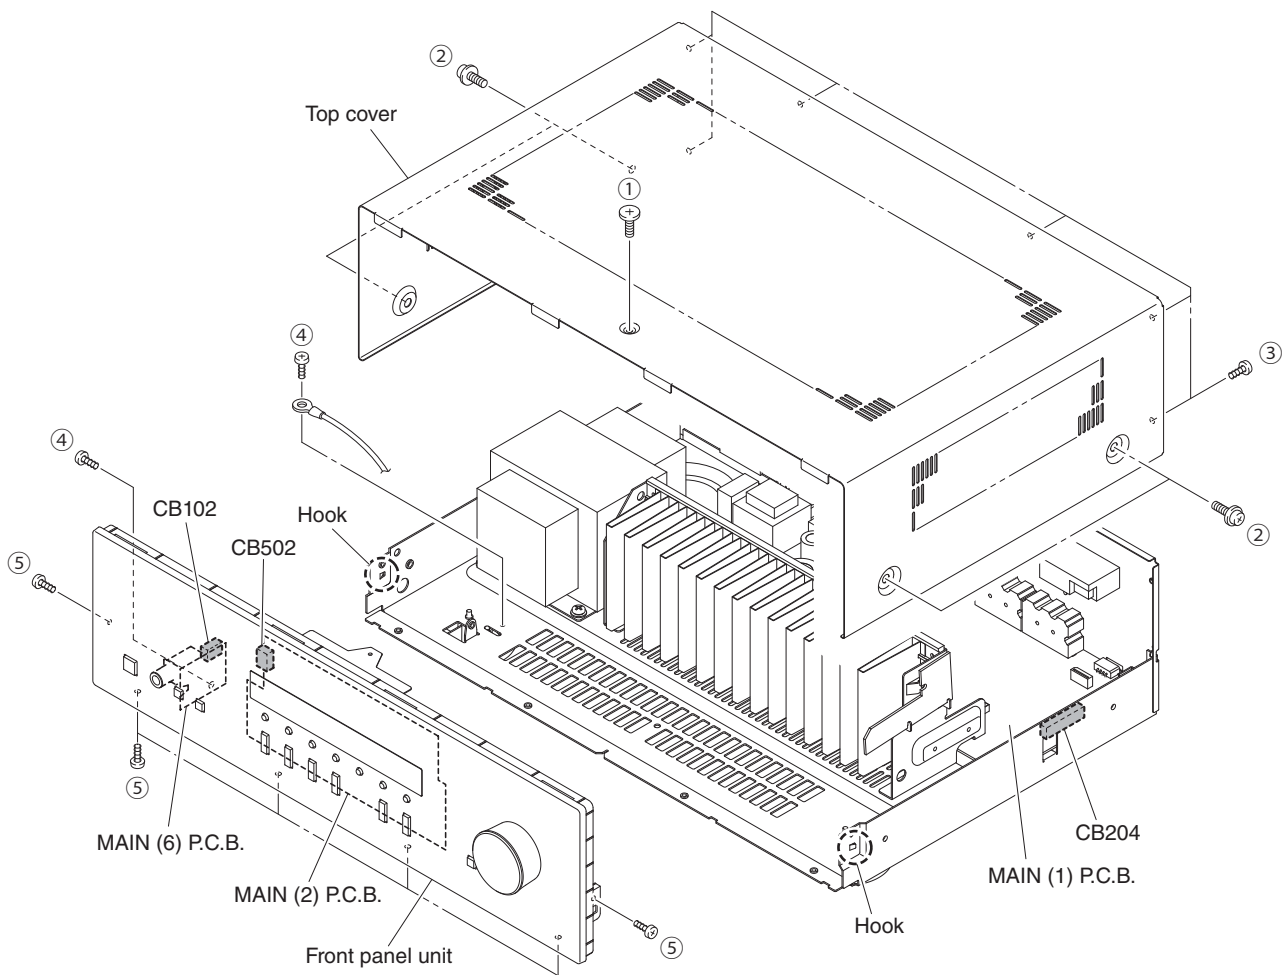

Fig. 1
- a. Remove screw (①), 4 screws (②) and 6 screws (③). (Fig. 1)
- b. Remove the top cover. (Fig. 1)
- a. Remove screw (④) and 6 screws (⑤). (Fig. 1)
- b. Remove screw (⑥) and then remove W501. (Fig. 1)
- c. Remove CB102, CB204 and CB502. (Fig. 1)
- d. Release 2 hooks and then remove the front panel unit. (Fig. 1)